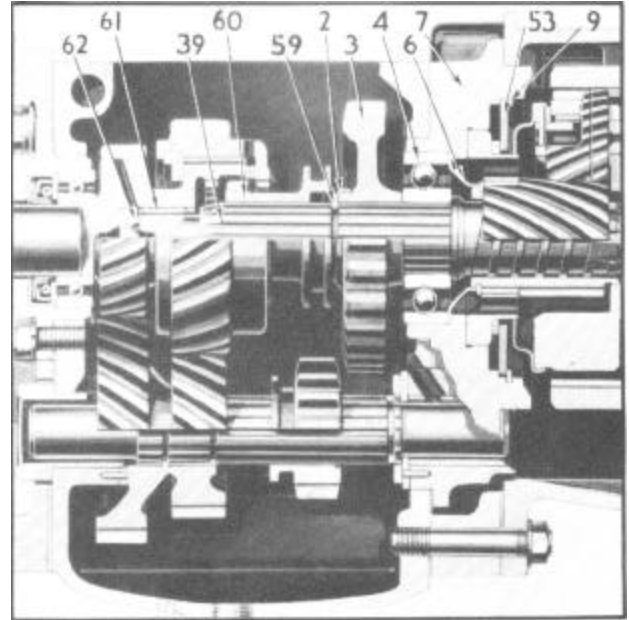

Figure 38--Reassembly of Mainshaft and Transmission Parts
1. Place needle roller bearings (61), Figure 38, and thrust balls (62) in position and hold in place with grease.